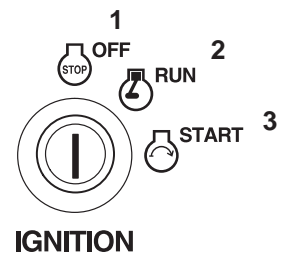

Figure 6
6. Turn ignition key to “START” to energize starter. When engine starts, release key (Fig. 6).
2. Turn the ignition key to “OFF” and remove (Fig. 6).